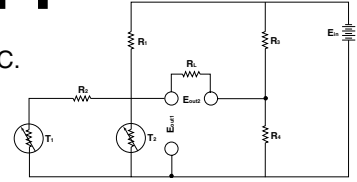

Figure 1
*** See Figure 1, example 1 on typical linear component application on next page.
- Using the Linear network as two legs of a Wheatstone bridge add the two additional legs, R_3 and R_4 so that $E_{out2} = 0$ when $T = 30^\circ\text{C}$. (See Figure 1.) R_3 and R_4 are calculated from five known conditions.